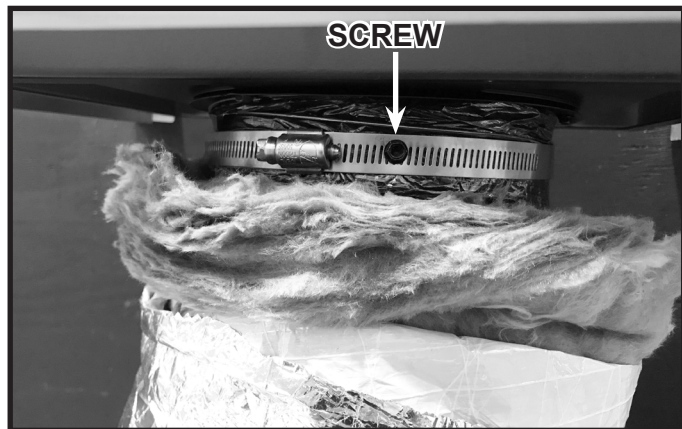

Figure 6.19 Install Screw into Collar
14. Install self-tapping screw through gear clamp into collar. Repeat for all collars. See Figure 6.19